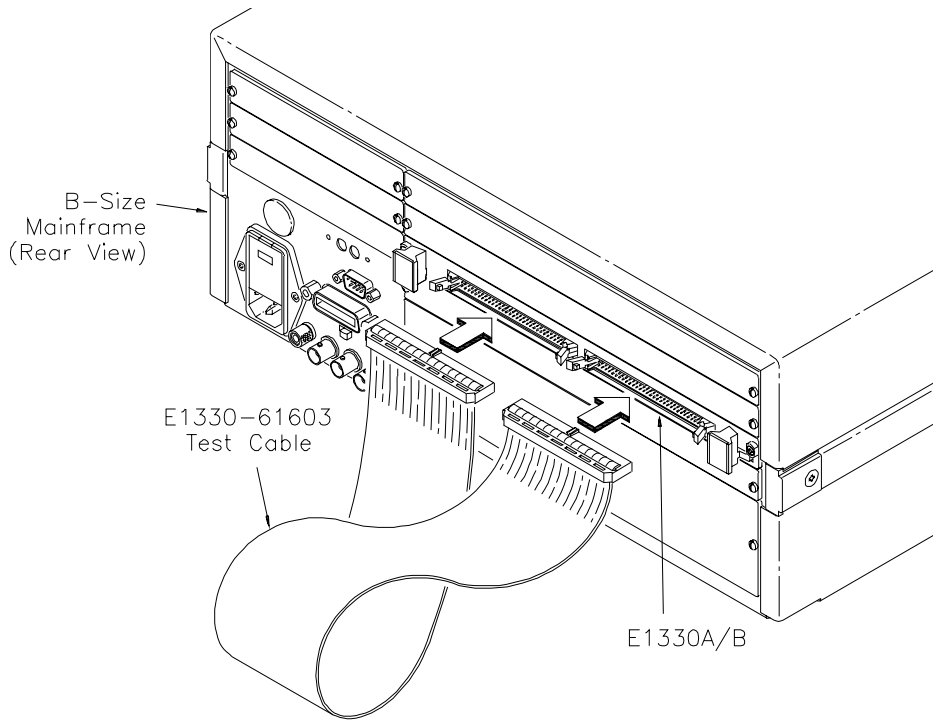

Figure 2-2. Test Cable Installation
- Install the Test Cable as shown in Figure 2-2.